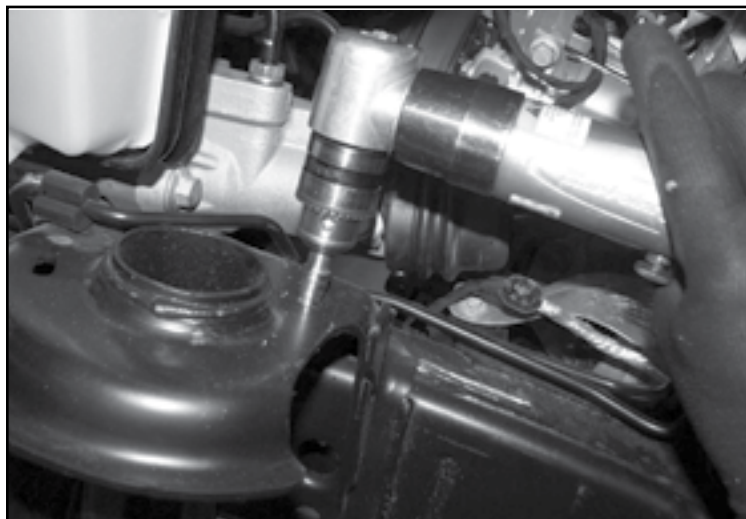

FIGURE 11 - STEP 10
10. Using a drill and 3/8" bit. Drill out the existing hole on the coil bucket. **SEE FIGURE 11**